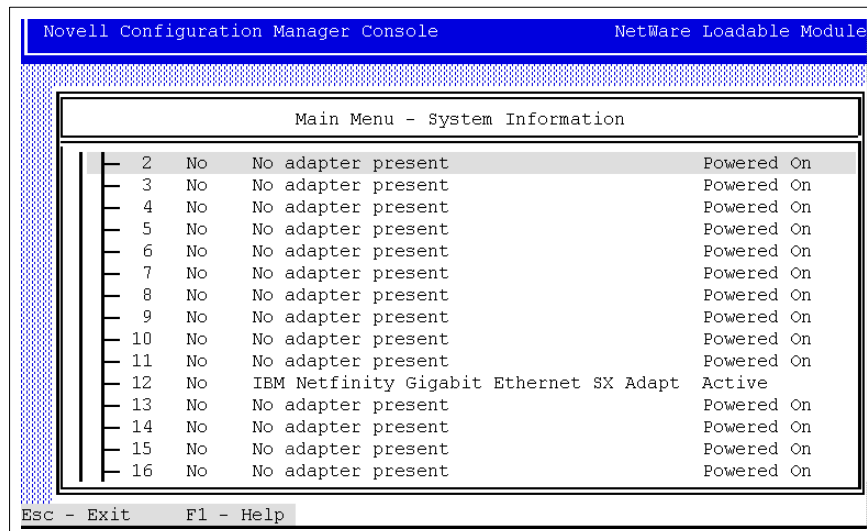

Figure 4-12 Verifies that PCI hot-plug installation was successful
6. To verify the installation, load the Novell Configuration Manager, NCMCON.NLM. This will show the available hot-plug PCI slots, their current status, and any adapters that are currently in the hot-plug PCI slots, as shown in Figure 4-12.